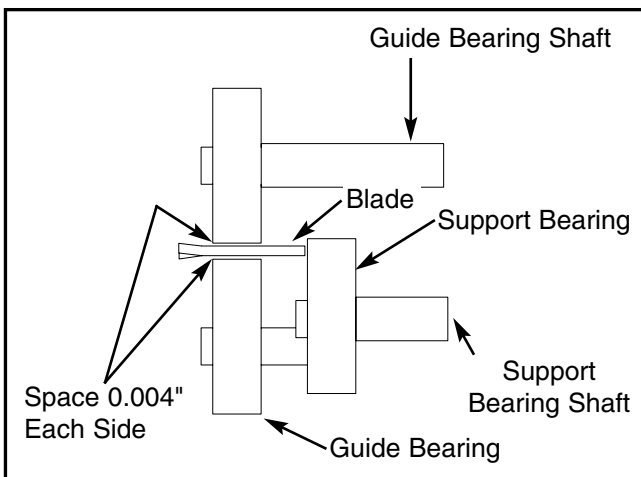

Figure 10. Close-up of guide bearing assembly.
2. Turn the knurled ends of the bearing shafts. Adjust so that the bearings are about 0.004" (about the thickness of a piece of paper) from the sides of the blade. **Figure 10.** The bearings should also be as near to the same height as possible.